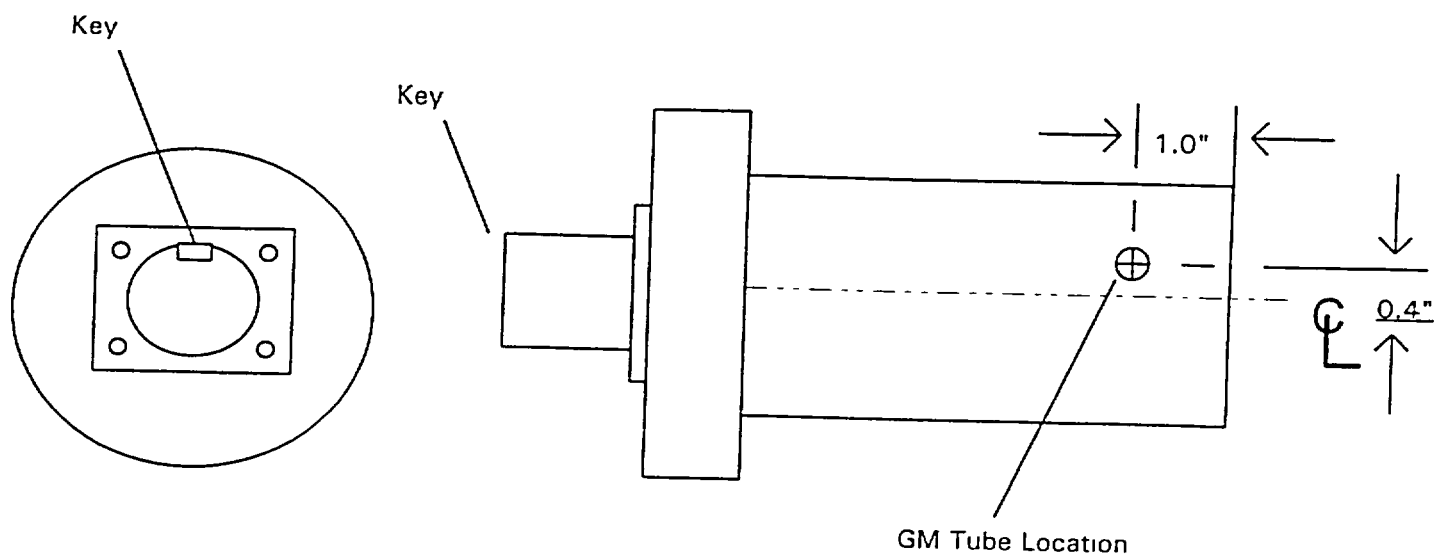

FIGURE 1
- 7.2 Mount detector in TRI-SOURCE using Adaptor Fixture and allow 15 minute warm-up period for detector and all electronics prior to data collection. Adjust Table height so that the laser spot is located on the detector housing as shown in Figure 1.